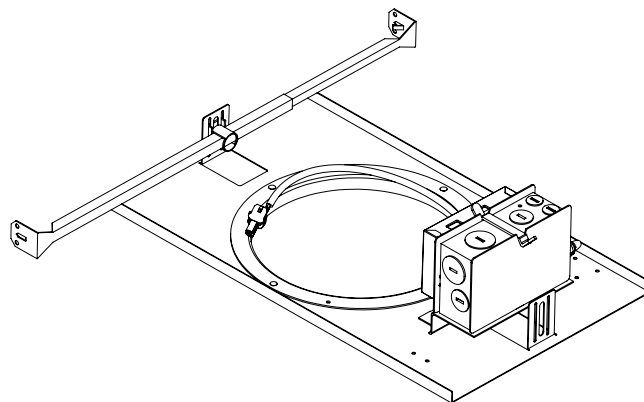

Figure 2:
2. To install fixture, remove faceplate by loosening (1) 1.5mm hex head screw located on side of faceplate. Rotate faceplate counter-clockwise to remove. See Figure 2.
3. Ensure mounting claws are set to top most position and are turned in towards fixture. Mounting claws are raised and lowered via (2) 1.5mm hex head screws located under faceplate.
4. Push luminaire up into ceiling opening and tighten (2) 1.5mm hex head screws to secure luminaire into place.
5. Replace faceplate. Align grooves in faceplate with notches in fixture housing, rotate faceplate clockwise and then tighten (1) 1.5mm hex head screw to secure faceplate into place. See Figure 2.